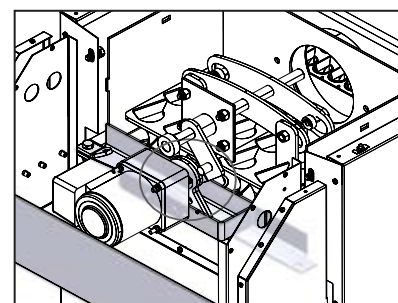

Figure 11-7: Cross-section of shaker motor cam location (covers omitted for clarity)
- Grease the edge of the shaker motor cam with high temperature grease. Refer to Figure 11-7.